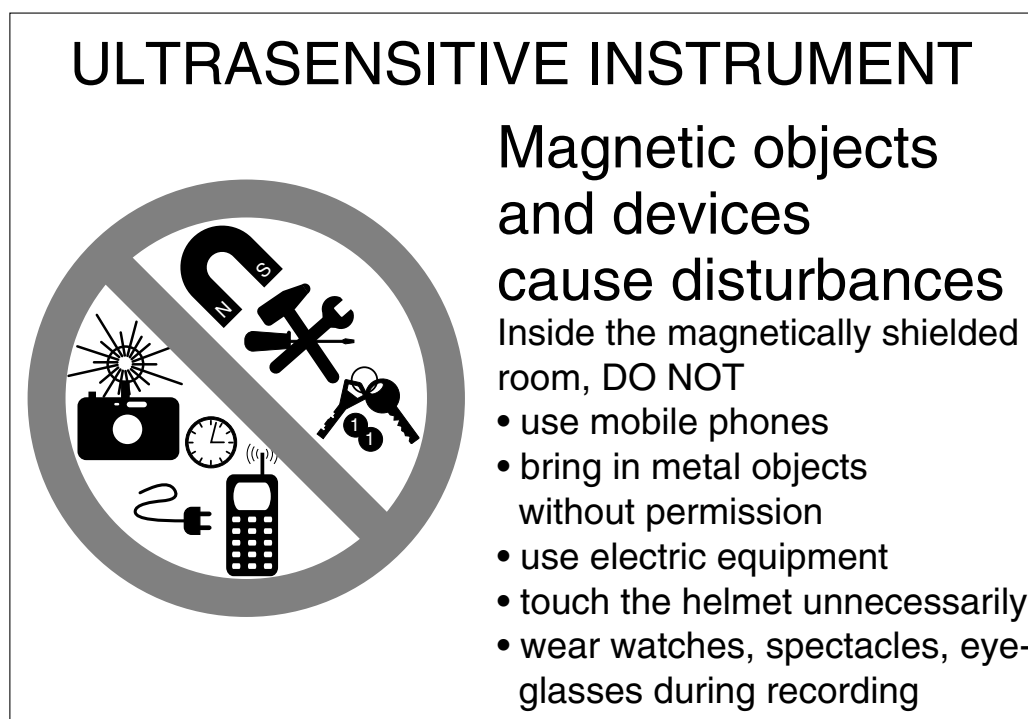

Figure 2.2. Recommended warning of magnetic objects.
- It is recommended that the user is warned about magnetic objects and devices with a sign posted at the entrance of the magnetically shielded room (see Fig. 2.2).